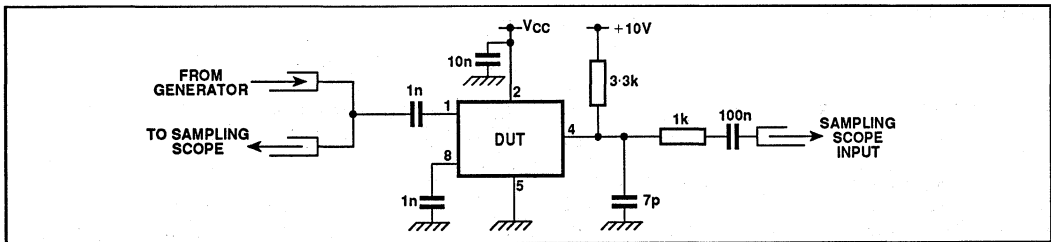

Fig. 5 Test circuit
1. The test configuration for dynamic testing is shown in Fig.5.
In the test configuration of Fig. 5, the output rise time is approximately 20ns and the fall time is typically 10ns.